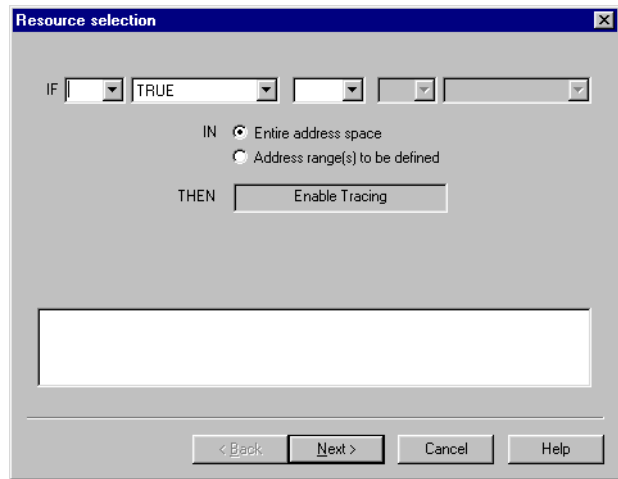

Figure 8-2 Resource selection for Enable Tracing
- Double-click **Enable Tracing** from the Actions list to define a rule. The Resource selection dialog box shown in Figure 8-2 on page 8-6 is displayed.